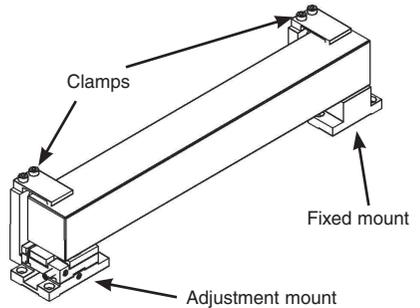

Figure 7: mirror clamped in mount
- Place the clamps provided on top of the blocks and half tighten with the screws provided as shown in Figure 7. Torque screws on both sides to 0.2 Nm \pm 0.05 Nm.